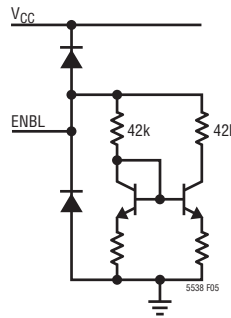

Figure 5. Simplified Schematic of the Enable Circuit
# TYPICAL PERFORMANCE CHARACTERISTICS (Test Circuit shown in Figure 5)
**TYPICAL PERFORMANCE CHARACTERISTICS** (Test Circuit shown in Figure 5)
A simplified circuit schematic of the ENBL Pin is shown in Figure 5. The enable voltage necessary to turn on the LT5538 is 1V. The current drawn by the ENBL pin varies with the voltage applied at the pin. When the ENBL voltage is 3V, the ENBL current is typically 100  $\mu$ A. When the ENBL voltage is 5V, the ENBL current is increased to 200